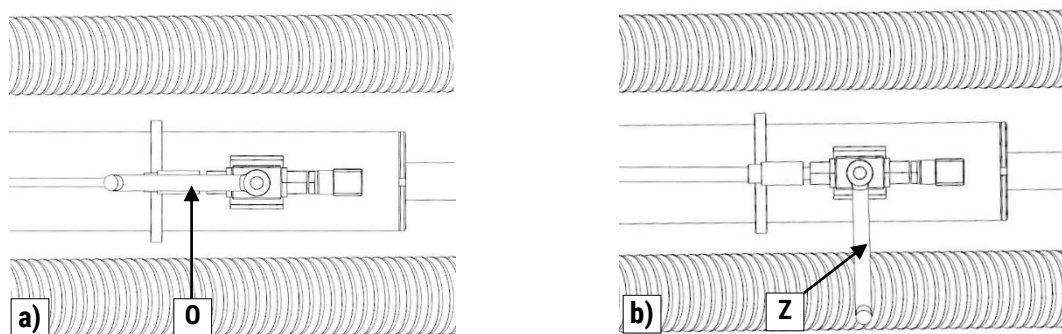

Fig. 12. Shut-off valve position: a) open(work), b) closed(transport)
- ❑ secure the cutterbar against falling by the shut-off valve (**Fig. 12**) placed on the mower's hydraulic cylinder.
During transport the shut-off valve of mower hydraulic lift should always be closed – the valve lever in **Z** position (**Fig. 12**). It protects the mower against incidental falling in case of hydraulic failure.
- ❑ open the shut-off valve on the hydraulic cylinder (**Fig. 12**),